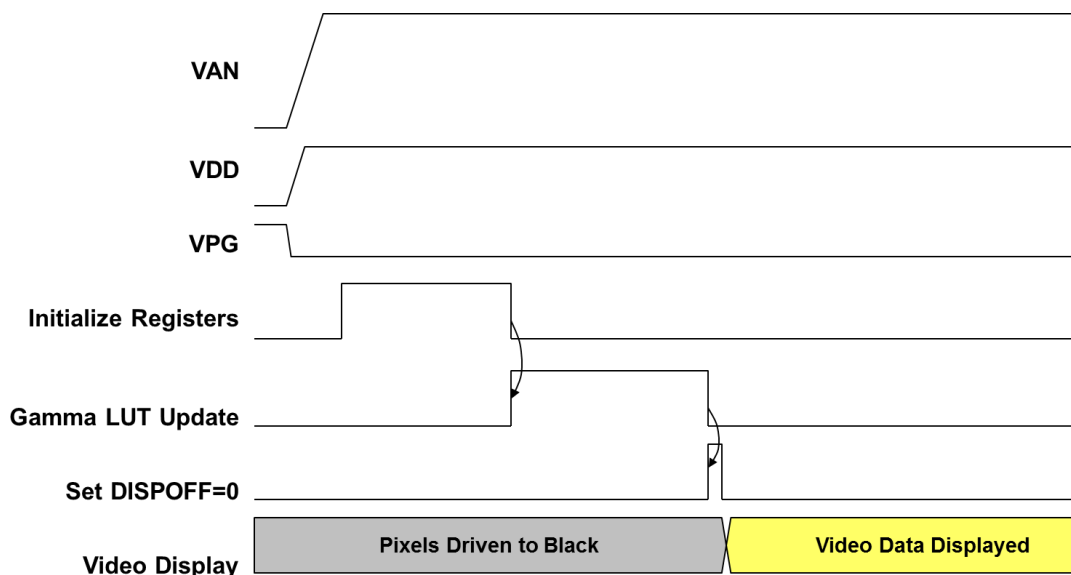
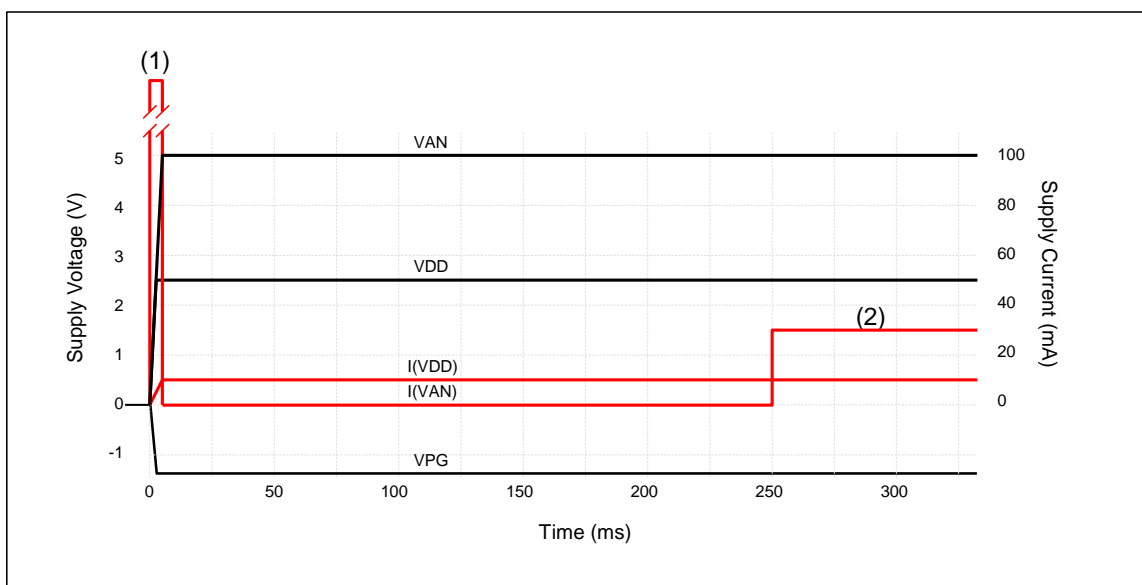

Figure 25 : Power-On sequence for supplies and control.
Figure 26: Typical startup currents
To ensure proper startup and stabilization of the display the power-on sequence shown in the timing diagram of Figure 25 is recommended.
The currents supplied during a typical startup operation are illustrated in Figure 26. An inrush current (1) occurs on the 5V supply line during the initial moments of the ramp up phase (this is about 1A peak for a 100usec ramp time). Typically, using the startup procedure illustrated in Figure 25 the image will become active about 250 msec after power is applied. The current drawn from the 5V supply during normal operation (2) depends on the operating luminance.